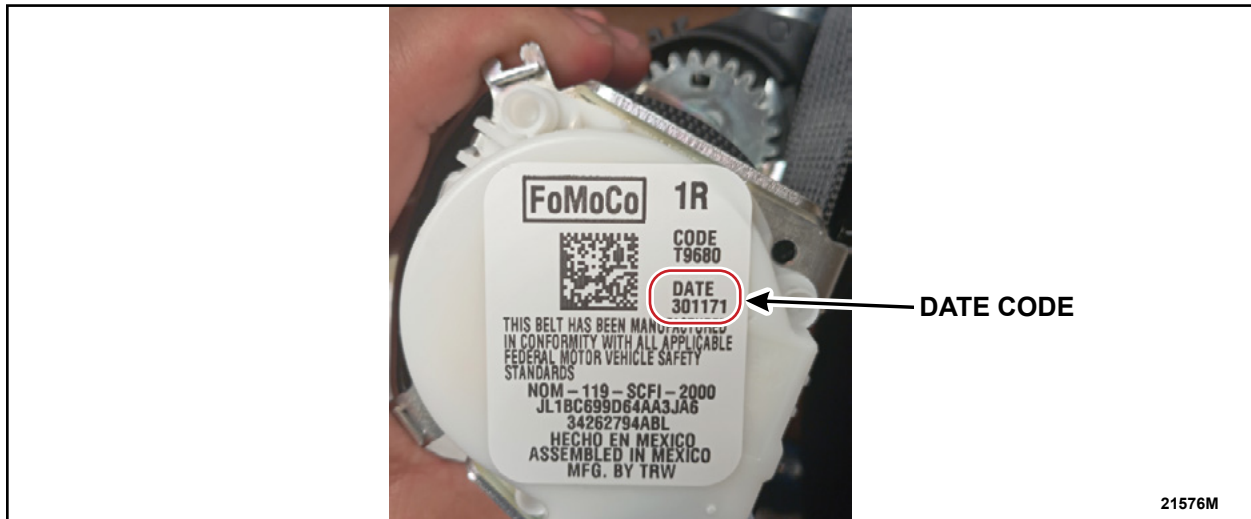

FIGURE 20
13. Locate the date code on both the LH and RH front seatbelt retractors. See Figure 20.